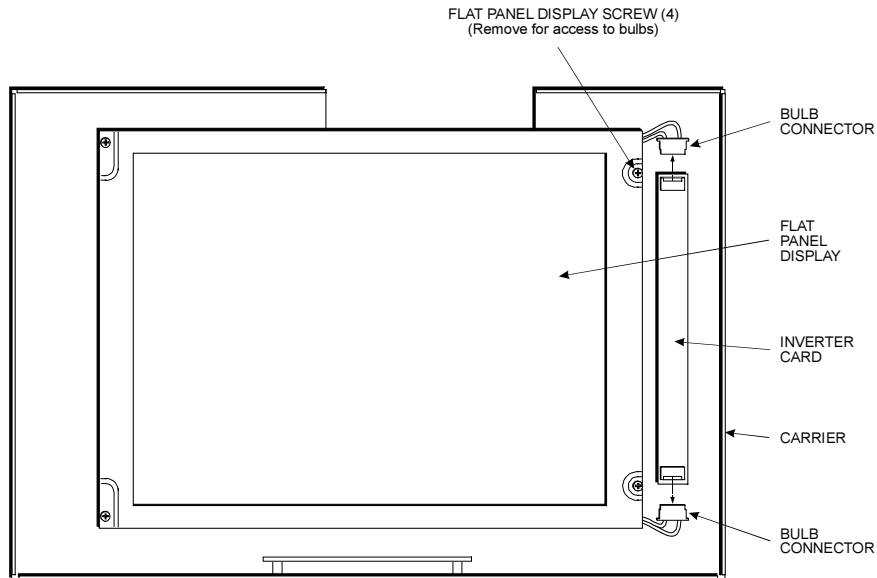

Figure D- 1. Model #LQ15X01W - Front View
6. Referring to Figure D- 1, use a small Phillips-head screwdriver to remove the four flat-panel display screws.